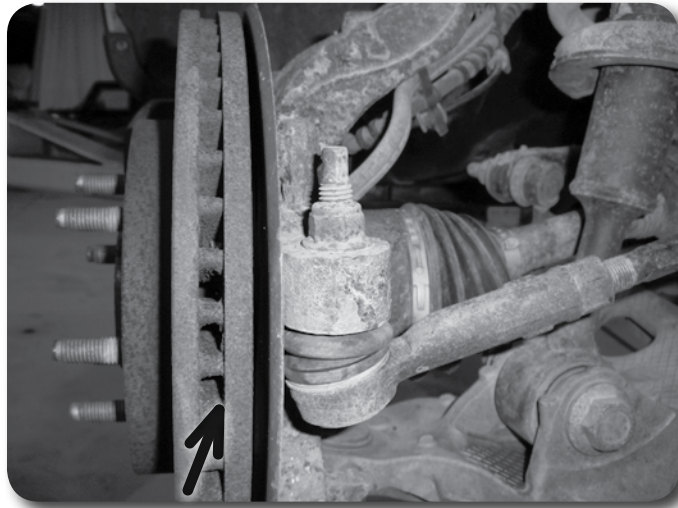

Figure 2
5. Remove the steering tie rod end nut from the tie rod end at the knuckle **Figure 2**. Thread the nut back on a couple of turns. Strike the knuckle with a hammer near the tie rod end to dislodge it from the knuckle. Remove the nut and the tie rod end from the knuckle. Save tie rod end nut.